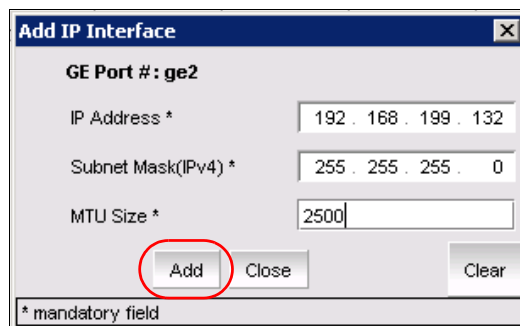

Figure 11-76 Add IP details dialog box
- Specify the IP address, subnet mask, and the Ethernet maximum transmission unit (MTU) size in the “Add IP Interface” dialog box (Figure 11-76). To add the new IP interface we click **Add**.